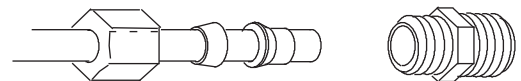

FIG. 7
4. Move the brine tank (water softener only) into position nearby the resin tank, setting on a flat, smooth surface. Do not set on protrusions or uneven surfaces that could cause the tank to puncture or break. If assembly is needed, place the brine valve (or air check) in the brinewell and put both into the brine tank. Insert brine valve top elbow out the hole in the brine tank sidewall. Install the 3/4" x 1/2" reducer (Figure 7).
5. **CONNECT BRINE TUBING:** Install the coupler and tubing connector fittings at the brine elbow (Figure 7), and a tubing connector at the brine valve. Connect a length of 1/2" O.D. tubing between the fittings, routing out of the way, and without sharp bends or kinks.
**10. MOUNT THE ELECTRONIC CONTROL BOX** on the front of the valve motor box (Figure 7) or in a convenient location nearby the conditioner(s), and within reach of water meter and power cord connections.